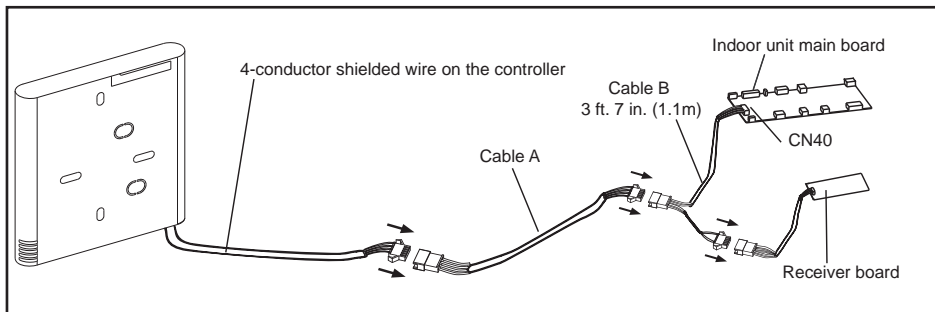

Figure 2. Wiring Connections MMDA, MCFA, M22A and M33A
1. Use the wiring connections illustrations (Figures 2 and 6) to connect the controller to the indoor unit. **NOTE** - Connection details for wall-mounted units differ from the other indoor unit types.